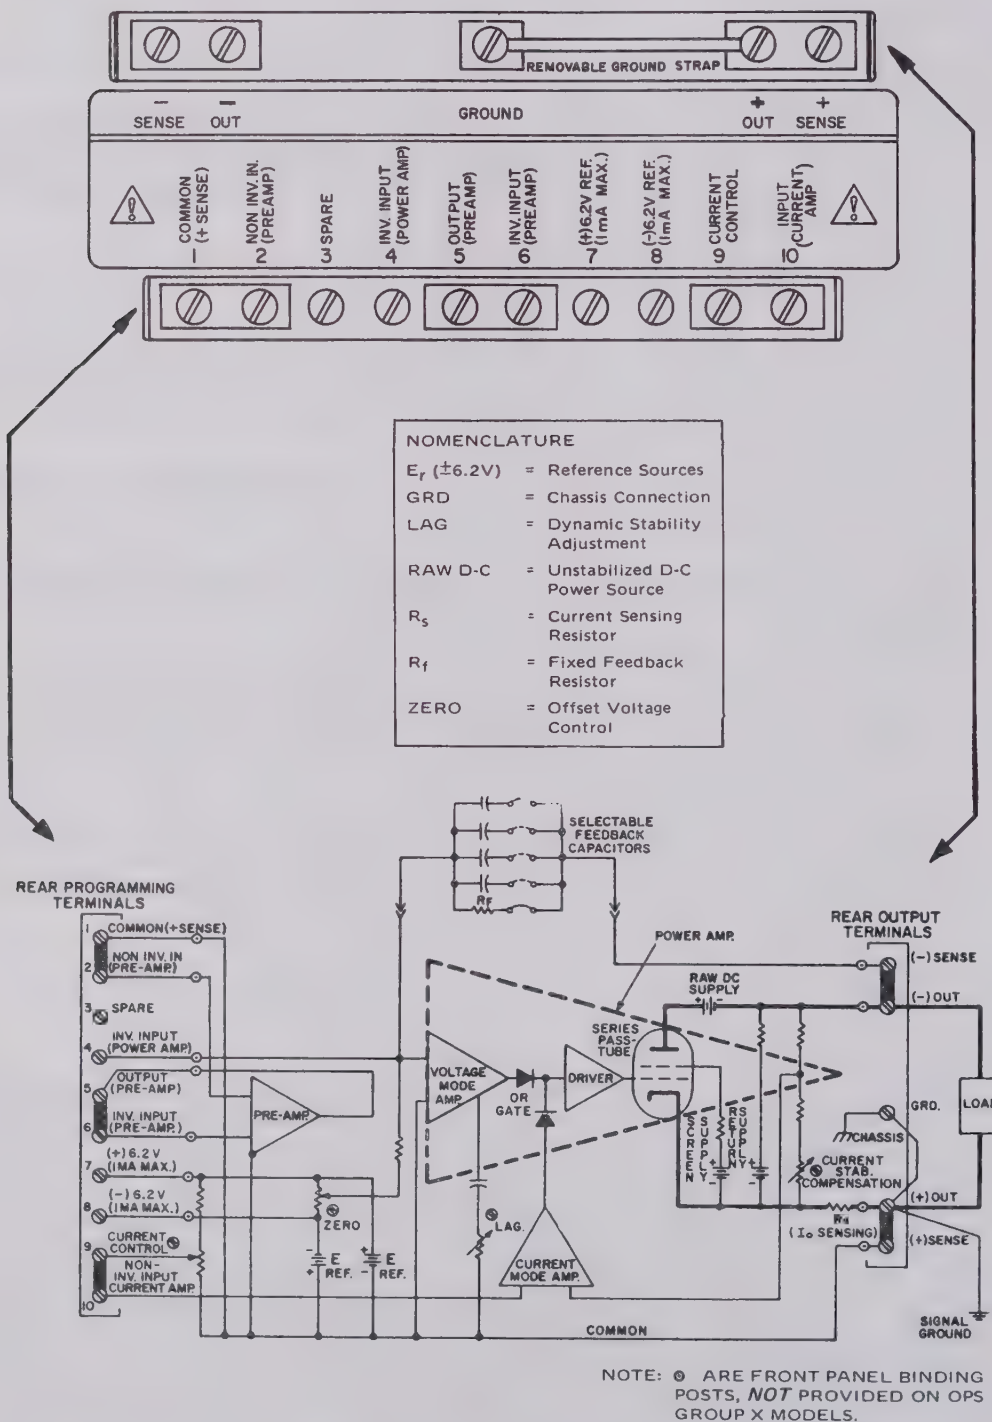

FIG. 3-1 ACTUAL OPS REAR TERMINATIONS (TOP) AND SIMPLIFIED SCHEMATIC DIAGRAM (BELOW)
NOTE: THE FUNCTIONAL CHECK MAY BE PERFORMED BY CONNECTING TO THE FRONT PANEL BINDING POSTS INSTEAD OF THE REAR TERMINALS. SEE SECTION III, FIG. 3-1.
- a) LOAD CONNECTION (I). The basic interconnection between the OPS and the load are shown in FIG. 3-1. The load wire size for the 2-wire connection shown should be as large as practicable to keep the series resistance and inductance low. In addition, the load wire pair should be tightly twisted, to reduce possible "pick-up" from stray magnetic fields. The basic 2-wire connection is useful where the voltage drop in the load wires is of minor consequence, as for example, operation into a constant load or in a constant current operating mode.
- d) DIAGRAMS. Application and test setup diagrams on the following pages show the symbolic and simplified representation of the OPS GROUPS IX and X Power Supply Circuit. The terminal numbers shown in these diagrams correspond with the actual terminal numbers on the two barrier-strips located at the rear of the OPS (refer to FIG. 3-1) NOTE: GROUP IX OPS MODELS HAVE FRONT PANEL TERMINALS, DUPLICATING MOST OF THE REAR TERMINAL FUNCTIONS (SEE FIG. 3-1). THE FRONT PANEL TERMINALS ARE NOT SHOWN IN SUBSEQUENT DIAGRAMS IN THIS SECTION